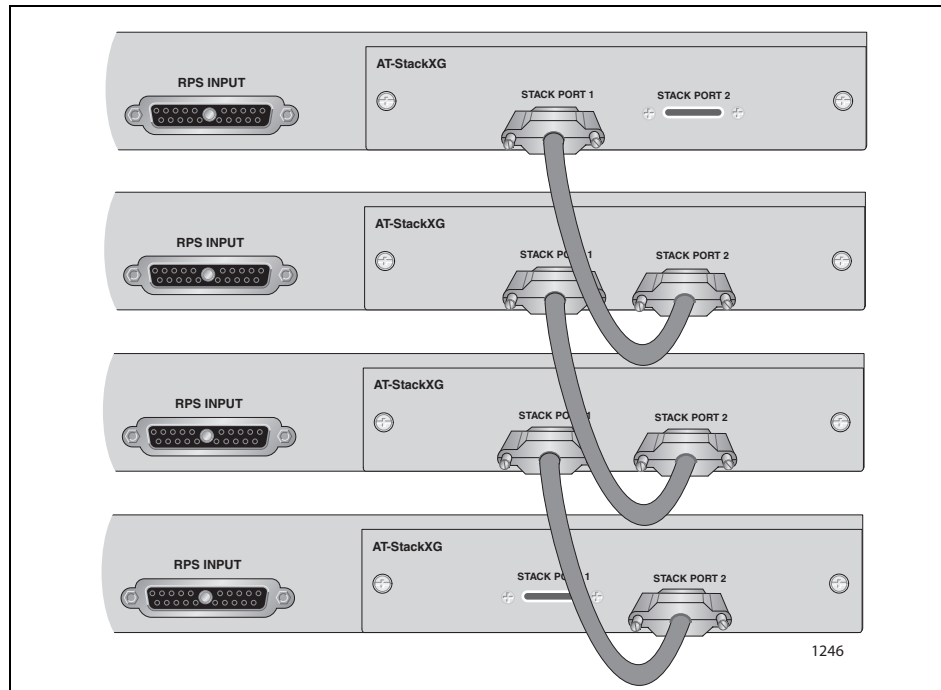

Figure 25. Example of a Cabling Configuration for a Stack with Four Switches
4. Repeat steps 1, 2, and 3 to cable the remaining switches of the stack with the AT-StackXG/.5 Stacking Cables. Figure 25 illustrates the cabling configuration for a stack of four switches.